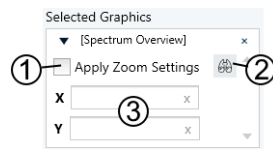

Figure 4-33: Zoom-settings box
5. Enter the "X" and "Y" parameters (3 in Figure 4-33) with a syntax as in Table 4-5. R&S ELEKTRA automatically applies the correct units from the chart.
Note: For spherical or cylindrical charts, you can select a predefined camera direction from a list. To open this list, click the "Select View" button (2 in Figure 4-33). For the view that you select, R&S ELEKTRA automatically enters the correct "X" and "Y" parameters.